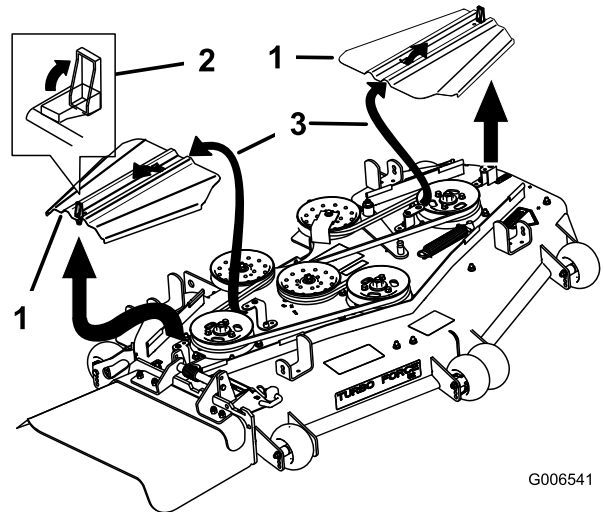

Figure 54
3. Remove the belt covers (Figure 54).